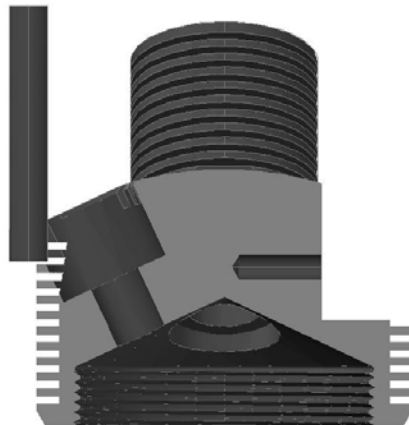

Figure 6
2. Mill a 0.360" wide slot centered on the sparkplug well down through the first fin that was notched when putting in the top grooves as shown in Figure 6.